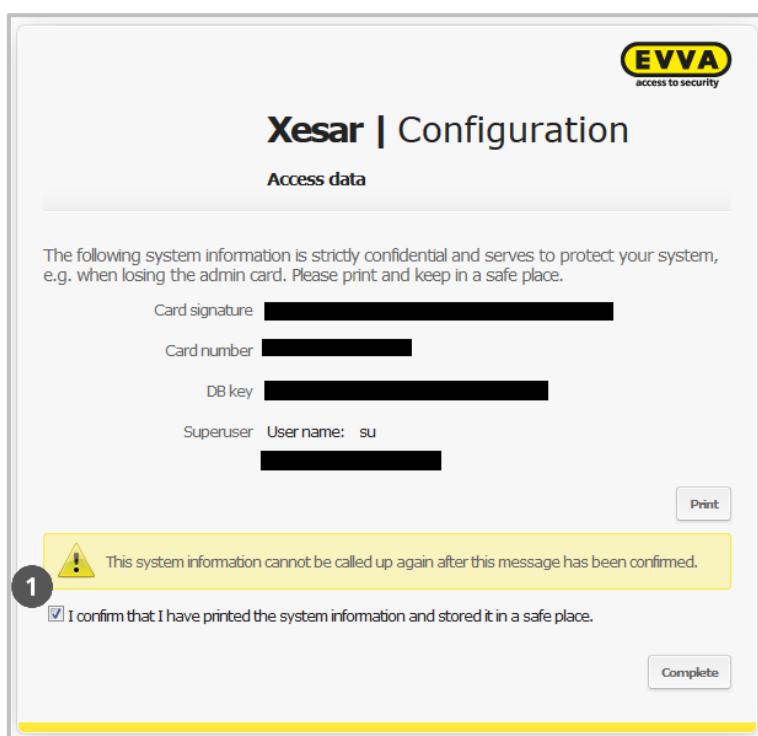

Figure 42: Configuration
Confirm the security prompt in the Xesar | Configuration ❶ application window (Figure 42: Configuration) and click **Complete**.